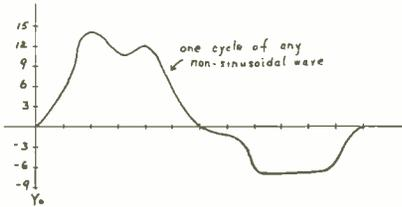
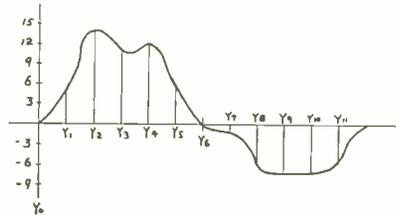

FIG. 1
FIG. 2
**1**—On a sheet of graph paper, draw as nearly a perfect reproduction as possible of the complex wave to be studied. This wave form is most easily obtained by the use of an oscilloscope. (Only one cycle of any wave is used in the analysis.) See Fig. 1.
**2**—On the vertical axis,  $Y_0$  (Fig. 1), lay off a voltage scale which will make every value of voltage on the reproduced wave correspond with the true voltage as measured by the scale of the oscilloscope's screen. Divide the length of horizontal axis which is taken by the wave into 360 degrees. This is to be divided in steps of 30 degrees. Through each 30-degree mark draw a line vertically from the horizontal axis to the wave, either above or below the horizontal axis. Label these lines as shown in Fig. 2.
**4**—Substitute the proper numerical values which were just obtained for the  $Y$ 's, in each of the following list of equations. Perform the indicated arithmetic, being very careful of handling all negative values correctly. In other words, if part of an equation is  $Y_2 - Y_5 - Y_8$ , and the numerical values for the three  $Y$ 's was found to be (4), (-3), and (2), respectively, then by substitution, it becomes  $(4) - (-3)$